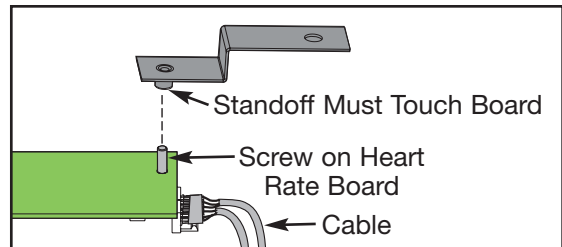

Figure 29
A. Place the screw removed during step 5C into the heart rate board from the bottom. See Figure 29.
B. Place the short end of the new heart rate bracket over the screw on the heart rate board with the standoff touching the board. See Figure 29.